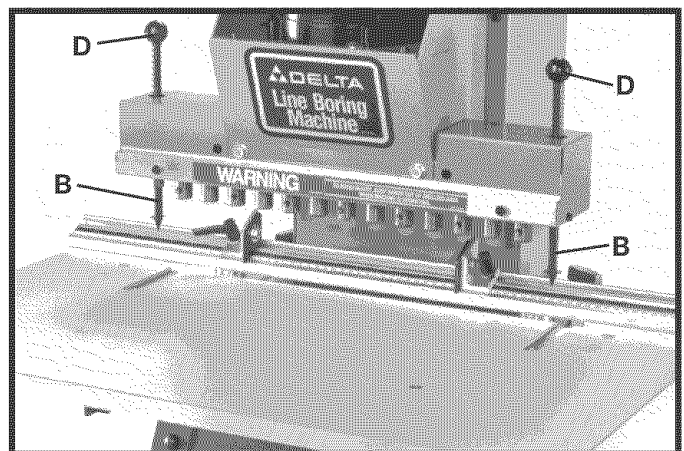

Fig. 21
3. Replace knobs (D) Fig. 21, to top of indexing pins (B) as shown.